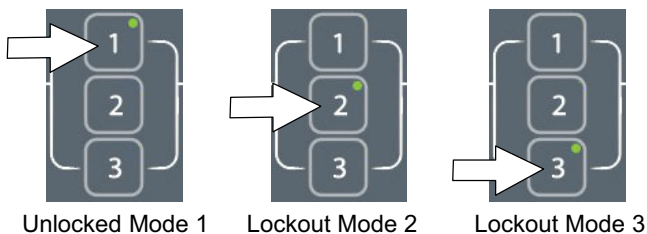

FIG. 158
1. Park the machine on a level surface and turn the key to off (O) position.
2. Press and hold the brush pressure button while turning the key on. Release button when the far right battery discharge indicator LED turns on (Figure 157). After releasing button, the active supervisor control mode will display as described in step 3 (Figure 158),
3. To select or change a supervisor control mode, press and hold the specific zone control button until the LED blinks three times (Figure 158). After selection is made, the LED will turn solid to indicate new mode.